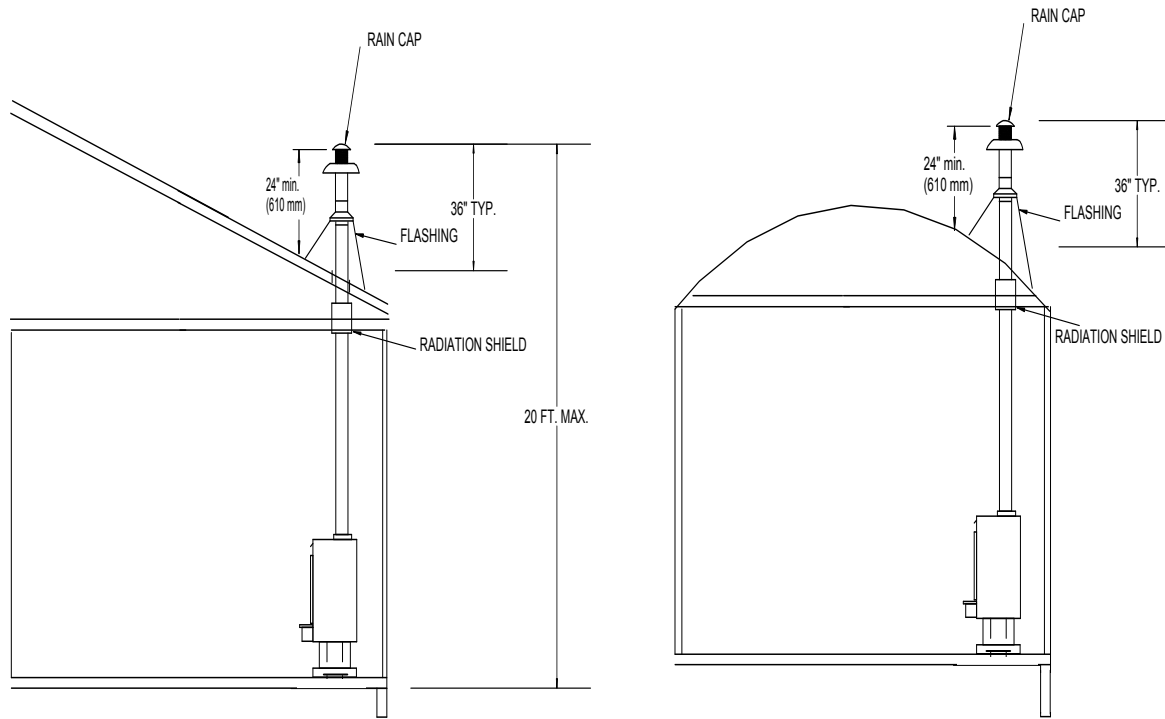

Figure 12D
- (b) Chimney pipe height is at least 2 feet higher than any part of roof within 10 feet of chimney. See (Page 27, Figure 12D).